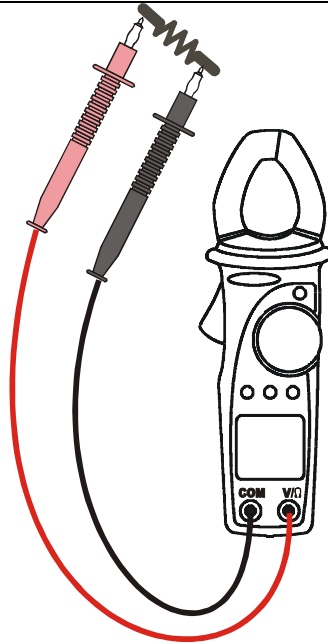

Fig. 8: use of clamp for continuity measure
2. Insert the test leads into the jacks, the red lead into "+" jack, and black lead into COM jack, as shown in Fig. 8.